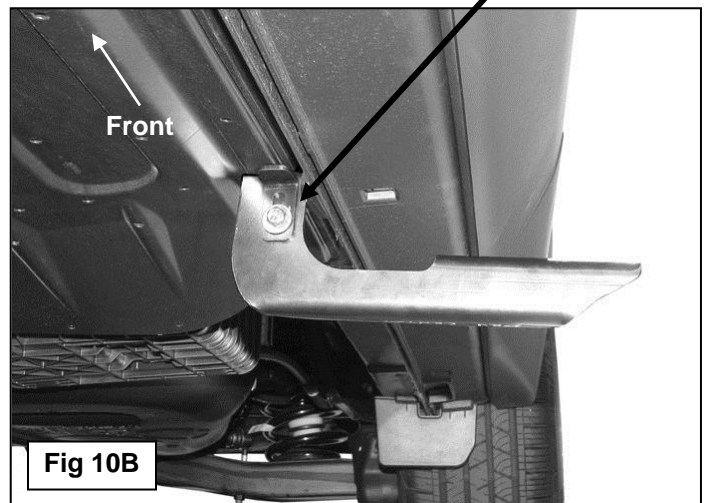
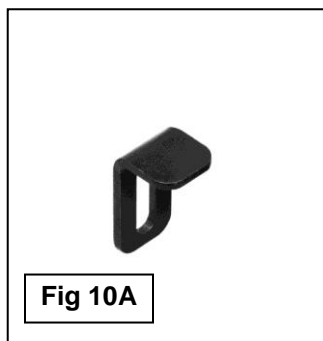

Fig 10B
Fig 10A
10. Select (1) "L" Center Support Bracket, **(Figure 10A)**. Bolt the L-Bracket to the front of the Center Bracket with (1) 6mm x 25mm Hex Bolt, (2) 6mm x 22mm Large Flat Washers and (1) 6mm Nylon Lock Nut, **(Figure 10B)**. Leave loose at this time.